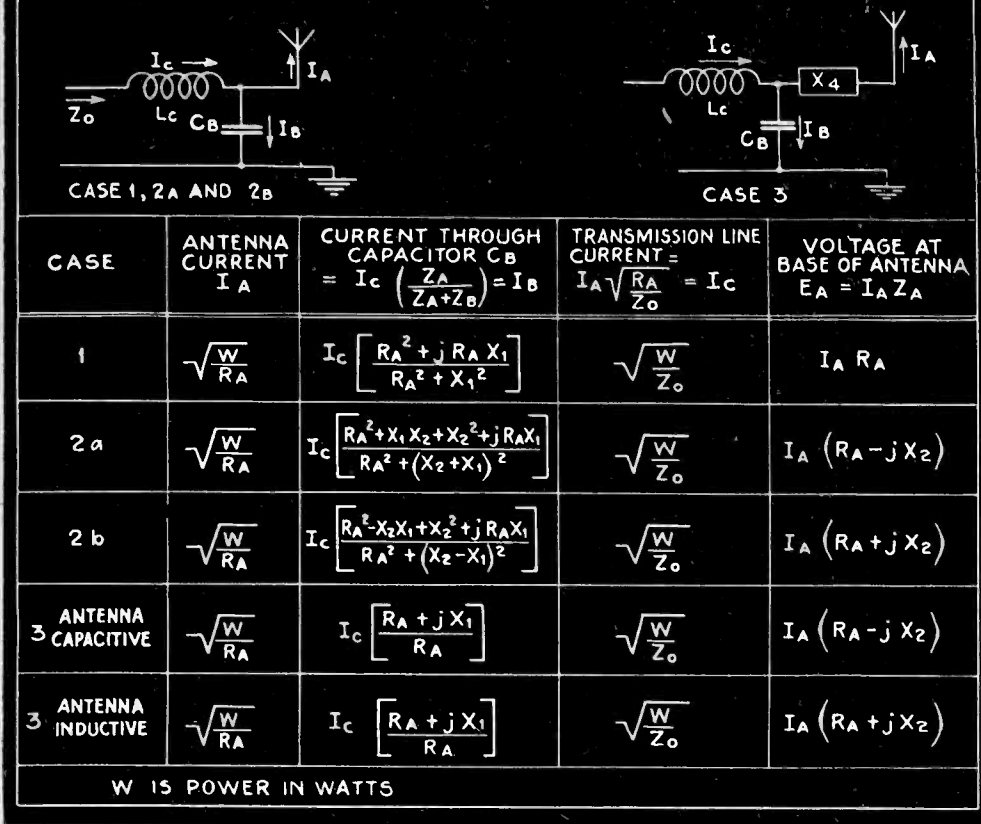

Fig. 6. Current and voltage relations in terminating circuits
3. Together with antenna resistance measurements, the antenna reactance should be measured, either by means of a radio frequency impedance bridge or in a manner shown in Fig. 6 over a wide frequency range and a curve constructed with antenna reactance as a function of frequency.